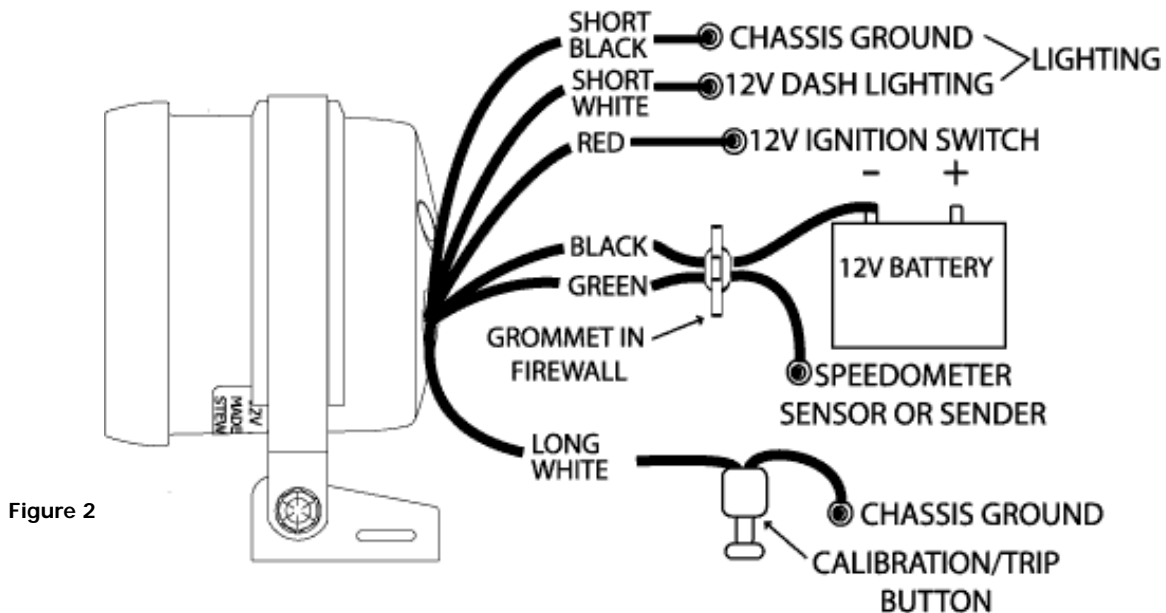

Figure 2
- ❑ When mounting on the dash or roll cage or steering column, use the cushioned strap & bracket as shown in figure 2.
SPEEDOMETER WIRING (Figure 2, 3 & 4):